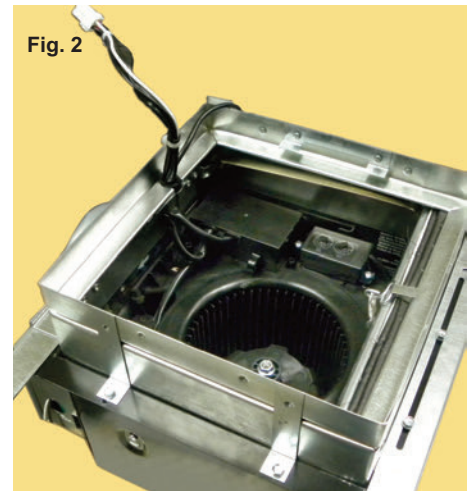

Fig. 2
If the damper and the Joist Brackets are attached with DIFFERENT holes (see Fig. 2) fasten the fan to the housing with four (4) 10-32 x 1/2 inch bolts and four (4) 10-32 keps nuts and proceed to Step 3. If the damper and the Joist Brackets are attached with the SAME holes (see Fig. 3) proceed to Step 3.
Locate plastic bag containing mounting brackets and loose hardware. Remove one support bar (R), one support bar (L). Align the support bars as shown in Fig. 4 with both ribs of the support bars on the same end, facing the opposite direction. Fasten to fan housing through slot in brackets and holes in housing with two (2) 10-32 x 1/2 inch bolts and two (2) 10-32 keps nuts. See Fig. 2 or Fig. 3.